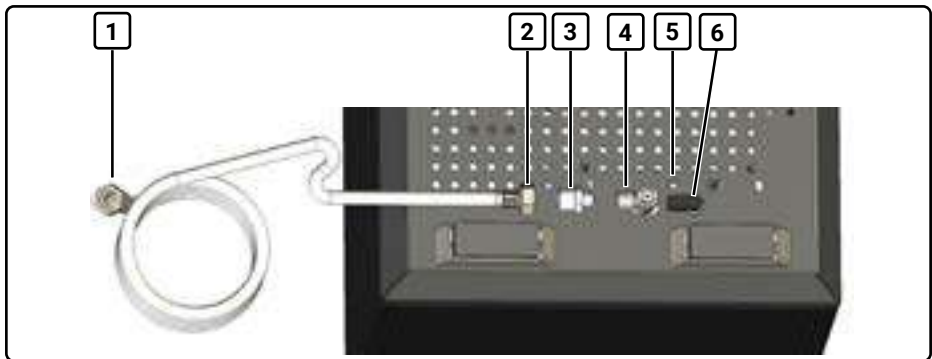

Fig. 5 View from below: Rotary valve in mains water position
2. Screw the water connection hose (2, Fig. 5) included in the scope of delivery to the water connection nozzle (4, Fig. 5) on the underside of the machine. Use the adapter (3, Fig. 5) for this.
4. Connect the water connection hose (1, Fig. 5) to the water supply.
5. Move the rotary valve (6, Fig. 5) into the mains water position (5, Fig. 5). The valve points towards the water connection nozzle (4, Fig. 5).